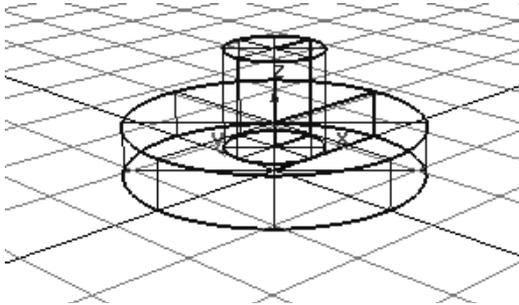

Figure 2-100 Stand created for the model
2. Enter **0, 0, 75** in the promptline and press ENTER; the stand of the model is created, as shown in Figure 2-100.